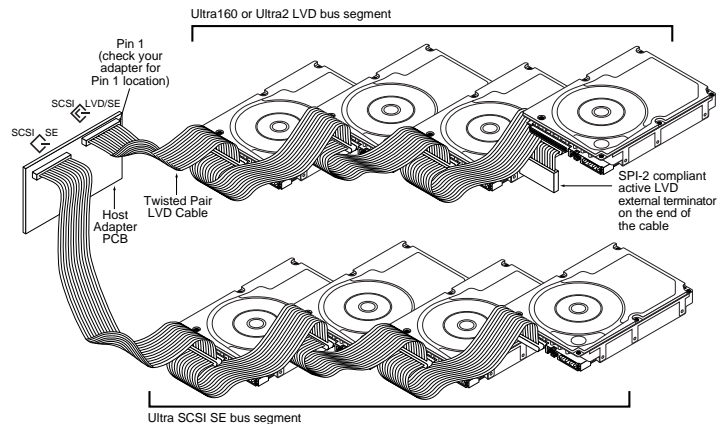

Figure 3. Cable connections and external termination
Note. Some LVD host adapters provide an LVD connector *and* an SE connector on the same host adapter to allow you to run SE and LVD drives concurrently at their maximum capabilities. Check your SCSI host adapter documentation. See Figure 3.
- Connect the DC power cable to the drive. See Figure 3.